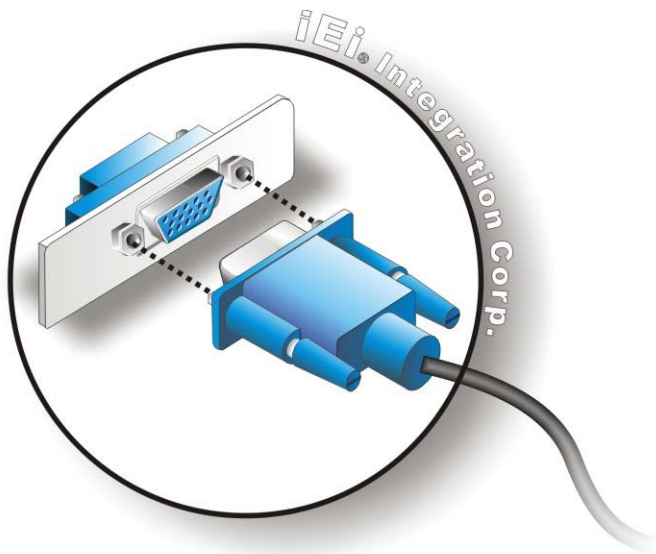

Figure 4-18: VGA Connector
- Step 3:** **Insert the VGA connector** Once the connectors are properly aligned with the insert the male connector from the VGA screen into the female connector on the WSB-H610. See **Figure 4-18**.